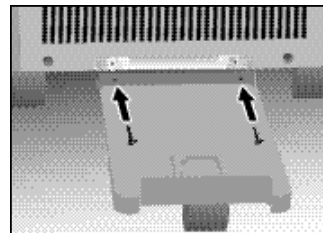

Fig.35
1. Attach the water tank support tray (with factory installed castor) to the (2) saddle brackets located at the rear (lower section) of the unit, using the screws provided. See Fig. 35